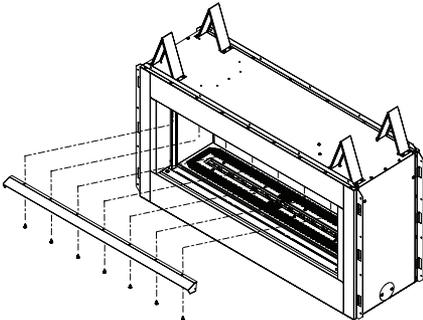

Figure 17 - Installing Hood
1. Loosen screws at top of face opening and slide hood through screws as shown in Figure 17.